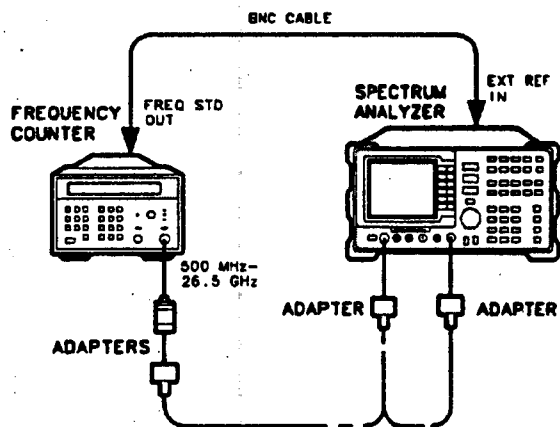

Figure 2-29. Frequency Tracking Range Setup
2. Remove the rear-panel jumper that is between the 10 MHz REF OUTPUT and EXT REF IN jacks. Connect the frequency counter FREQ STD OUT connector to the spectrum analyzer EXT REF IN connector as shown in Figure 2-29.
7. Connect the RF OUT 50Ω connector to the microwave frequency counter input as shown in Figure 2-29.